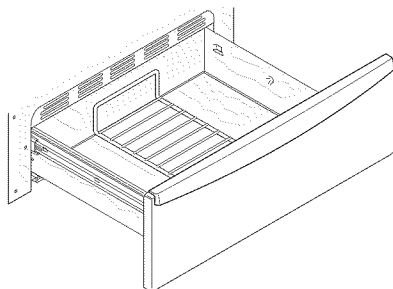

Figure 36: Downward position
- In the downward position (See Figure 36) to allow for light weight food items and empty cookware (for example, rolls, pastries, and dinner plates) on the rack.